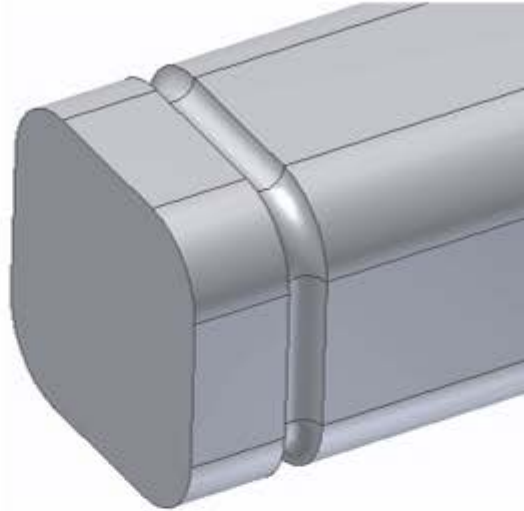

Figure 12–22
1. Which command would you use to create the groove in the model shown in Figure 12–22?